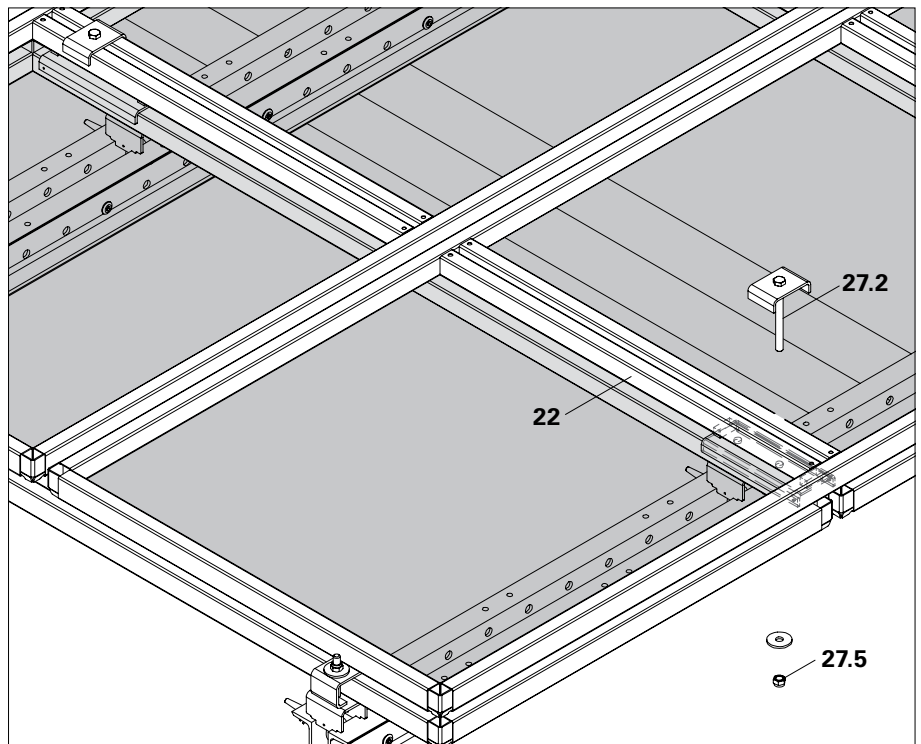

Fig. C1.25
5. Slide the Telescopic Screen (22) into position.
6. Insert the bolt from the Mesh Panel Clamp (27.2) through the Telescopic Screen as well as the long Clamping Plate and secure with Washer and Nut (27.5). Tightening torque 80 Nm. (Fig. C1.25)